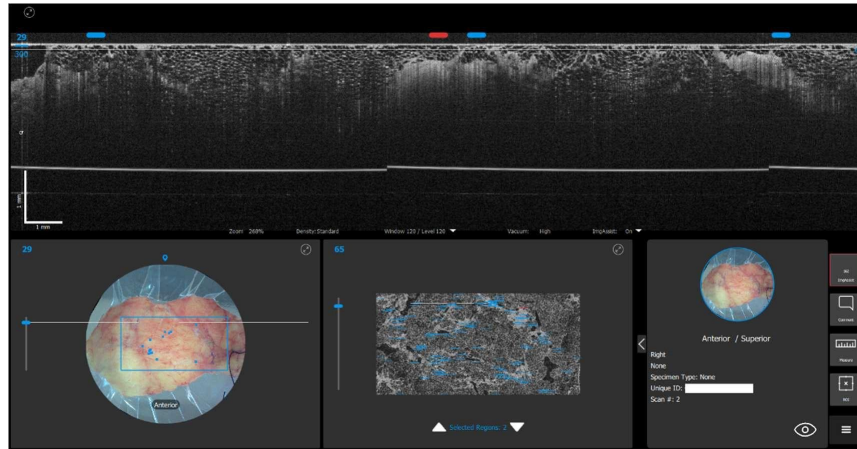

Figure 8: Review Screen
5. Review Screen (see Figure 8)
From the Review Screen, the user can scroll through WF-OCT Images. The user can select different scans from the same Case by tapping the arrow beside the scan card. The spatial locator (white lines) on the Specimen Photograph can be used to reference the approximate corresponding region of the WF-OCT Image on the specimen. Review Tools and Annotation Tools for adding comments, measuring distances, and placing regions of interest (ROI) are available on the Review Screen (Figure 8).
From the Review Screen, select **New** from the menu in the bottom right corner of the screen (see Figure 8).